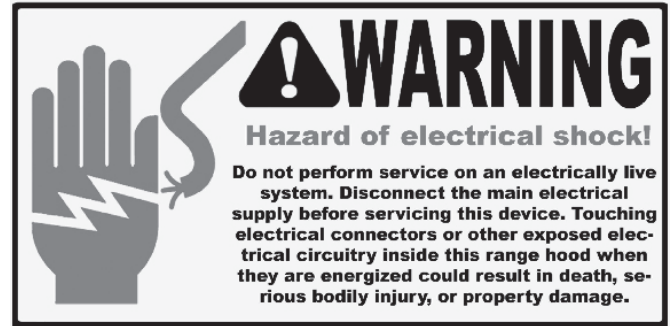

Figure 3A
2. Make sure the range hood is level and not tilted. Mark the locations of the hanging bracket holes on the roof as shown in Figure 3A and Figure 3B.